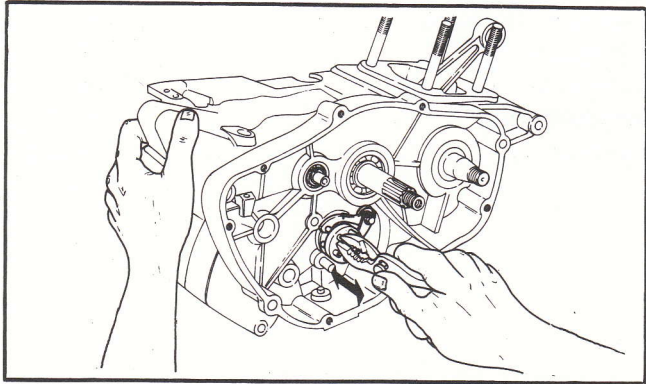

Fig. 31 - Measuring gear selector drum side play
- Perform this measurement as shown in fig. 31.